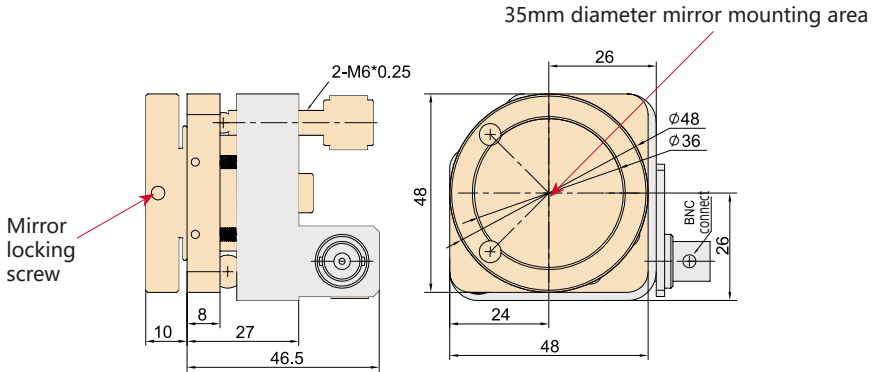

FIG. 4 Mirror installation diagram
3. Install a mirror at the dotted line as shown in FIG 4. Properly tighten the lens mounting screws to ensure positioning accuracy;